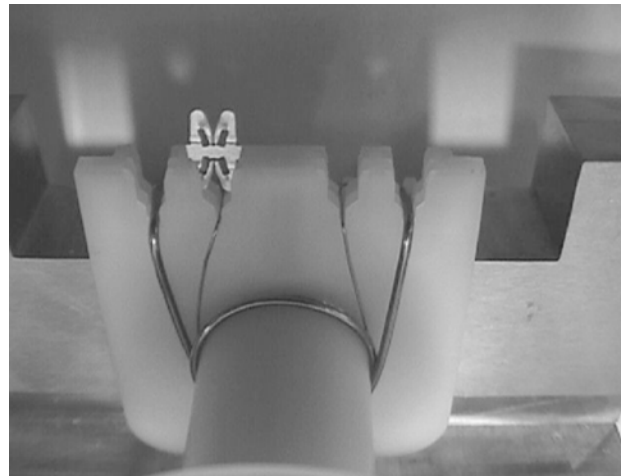

Figure 5
3. ARBOR FRAME ASSEMBLY OPERATION (Figure 5)
3. Place the wire-to-wire terminals into the correct cavity locations for each magnet wire. Ensure that the terminal is oriented correctly. See Figure 5.
2. Place the wire-to-wire terminals into the appropriate cavity locations for each magnet wire. Ensure that the terminal is oriented correctly, as shown in Figure 5.